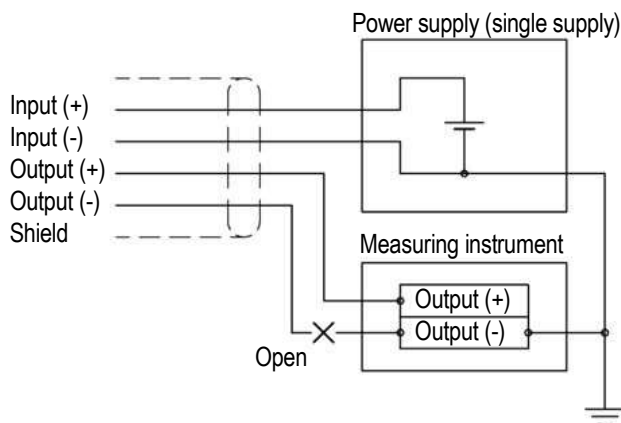

Fig.5
4.4 Do not connect the C: Input (-) to B: Output (-) when you use the single supply as the bridge excitation. At this time, open the B: OUTPUT (-) as illustrated below. In addition, the no-load output indicates the middle value of the power supply voltage. (Fig.5)